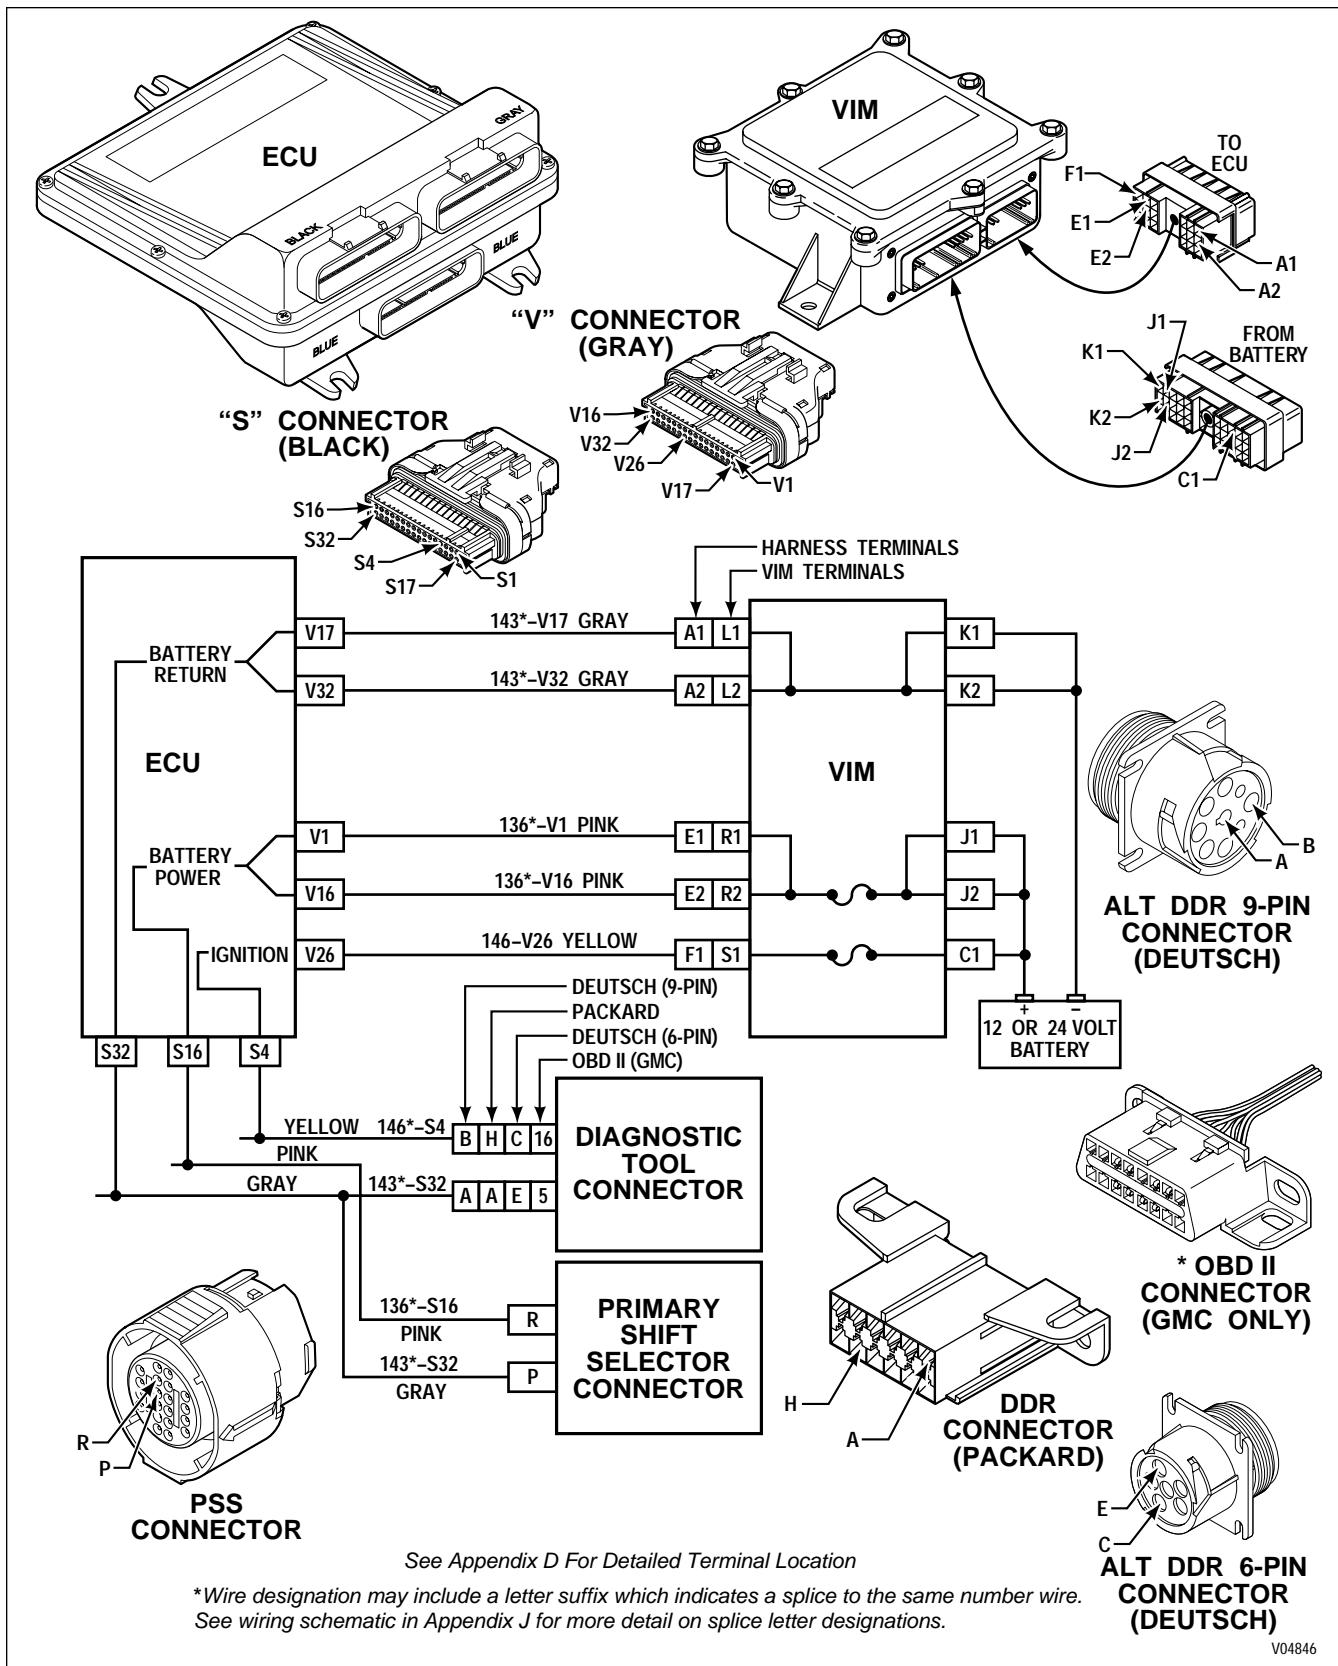

Figure 6–13. Code 35 Schematic Drawing
1. If possible, check the sump temperature with a DDR. Use the fastest sample rate available on the DDR. This is necessary to catch momentary changes due to an intermittent open or short to ground. If a DDR is not available, use the shift selector display to determine if the code is active (Paragraph 6–2). Disconnect the transmission “T” harness at the ECU and check resistance of the sensor and compare with Figure 6–12 for TID 1 and earlier sensors. See Appendix Q for TID 2 and later sensors.
2. If Step (1) reveals that the extreme temperature indication is no longer present, the temperature limit could have been reached due to operational or ambient temperature extremes. Also, you may be experiencing an intermittent problem and the code will not be active. Proceed cautiously, it is unlikely there is a sensor hardware fault.
CODE 33 XX — SUMP OIL TEMPERATURE SENSOR (Figure 6–11)**Figure 6–12. Temperature Sensor Chart (TID 1 and Earlier Sensors)**
CODE 35 XX — POWER INTERRUPTION (*Figure 6–13*)